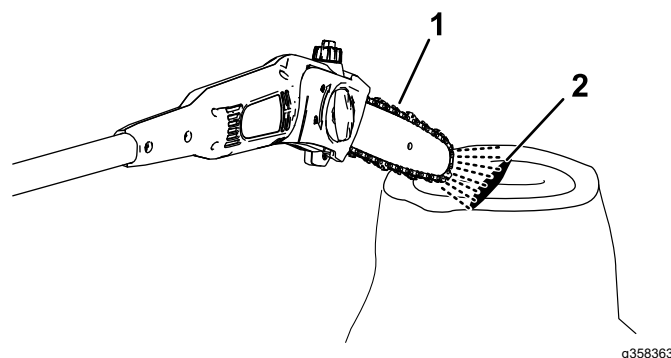

Figure 14
2. To ensure that oil is flowing to the chain, point the nose of the pole saw a few inches from a surface (e.g. paper, cardboard, a stump) and run the pole saw; you should be able to see a light spray of oil on the surface (Figure 14).